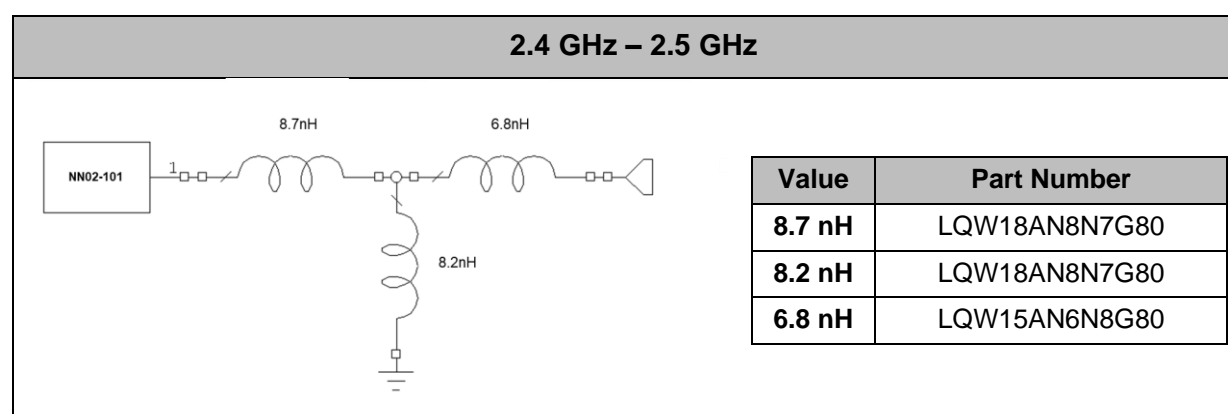

Figure 2 – Matching network implemented on the Evaluation Board (Figure 1) for covering Bluetooth from GHz to 2.5GHz.
For an optimal result, the use of high-quality factor (Q) and tight tolerance components is highly recommended (e.g., Murata components with part numbers as shown in **Figure 2**). The antenna performance is always conditioned by its operating environment meaning that differences in the device, including differences in printed circuit board sizes, components near the antenna, displays, batteries, covers, connectors, etc. affect the antenna performance. Accordingly, placing pads compatible with 0402 and 0603 SMD components for a matching network as close as possible to the feeding point of the antenna element is highly recommendable. It is also recommendable to do this in the ground plane area, not in the clearance area. By tuning the matching network in your final design after your final surrounding components are in place (batteries, displays, covers, etc.) you will be able to optimize the antenna performance without changing the antenna part or the design.